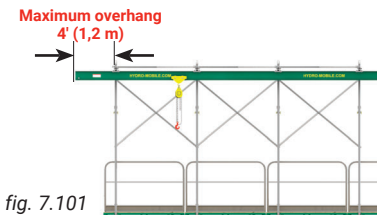

fig. 7.101
- 7- Make sure that the monorail beam does not overhang by more than 4' (1,2 m), as shown in fig. 7.101.